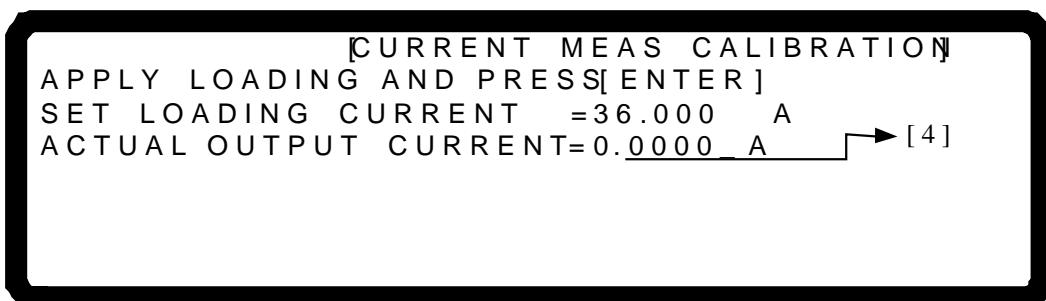

Figure 3-146
9. Press “” to do the 36.00A calibration. When the cursor stops at position [4] as shown in Figure 3-146, set the Electronic Load to draw 36.00A current. Enter the current read by the ULTRASTAB SATURN (DVM) and press “” to confirm it. Using the calibration values obtained, the system will calculate the calibration factor for the high current range.